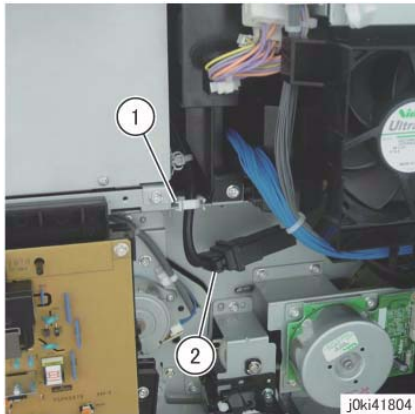

Figure 5 Disconnect the Fuser Drawer Harness connectors
8. Disconnect the connector of the Fuser Drawer Harness. (Figure 5)